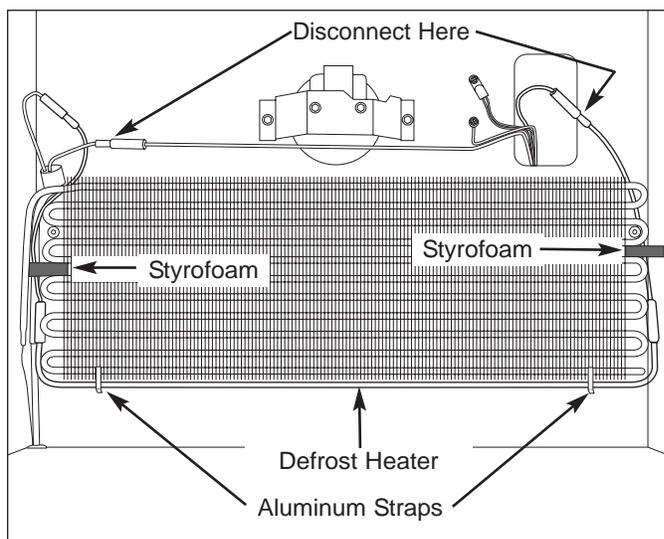

Figure 5-21. Defrost Heater Removal
2. Disconnect the defrost heater wire leads from the wire harness. (See Figure 5-21)